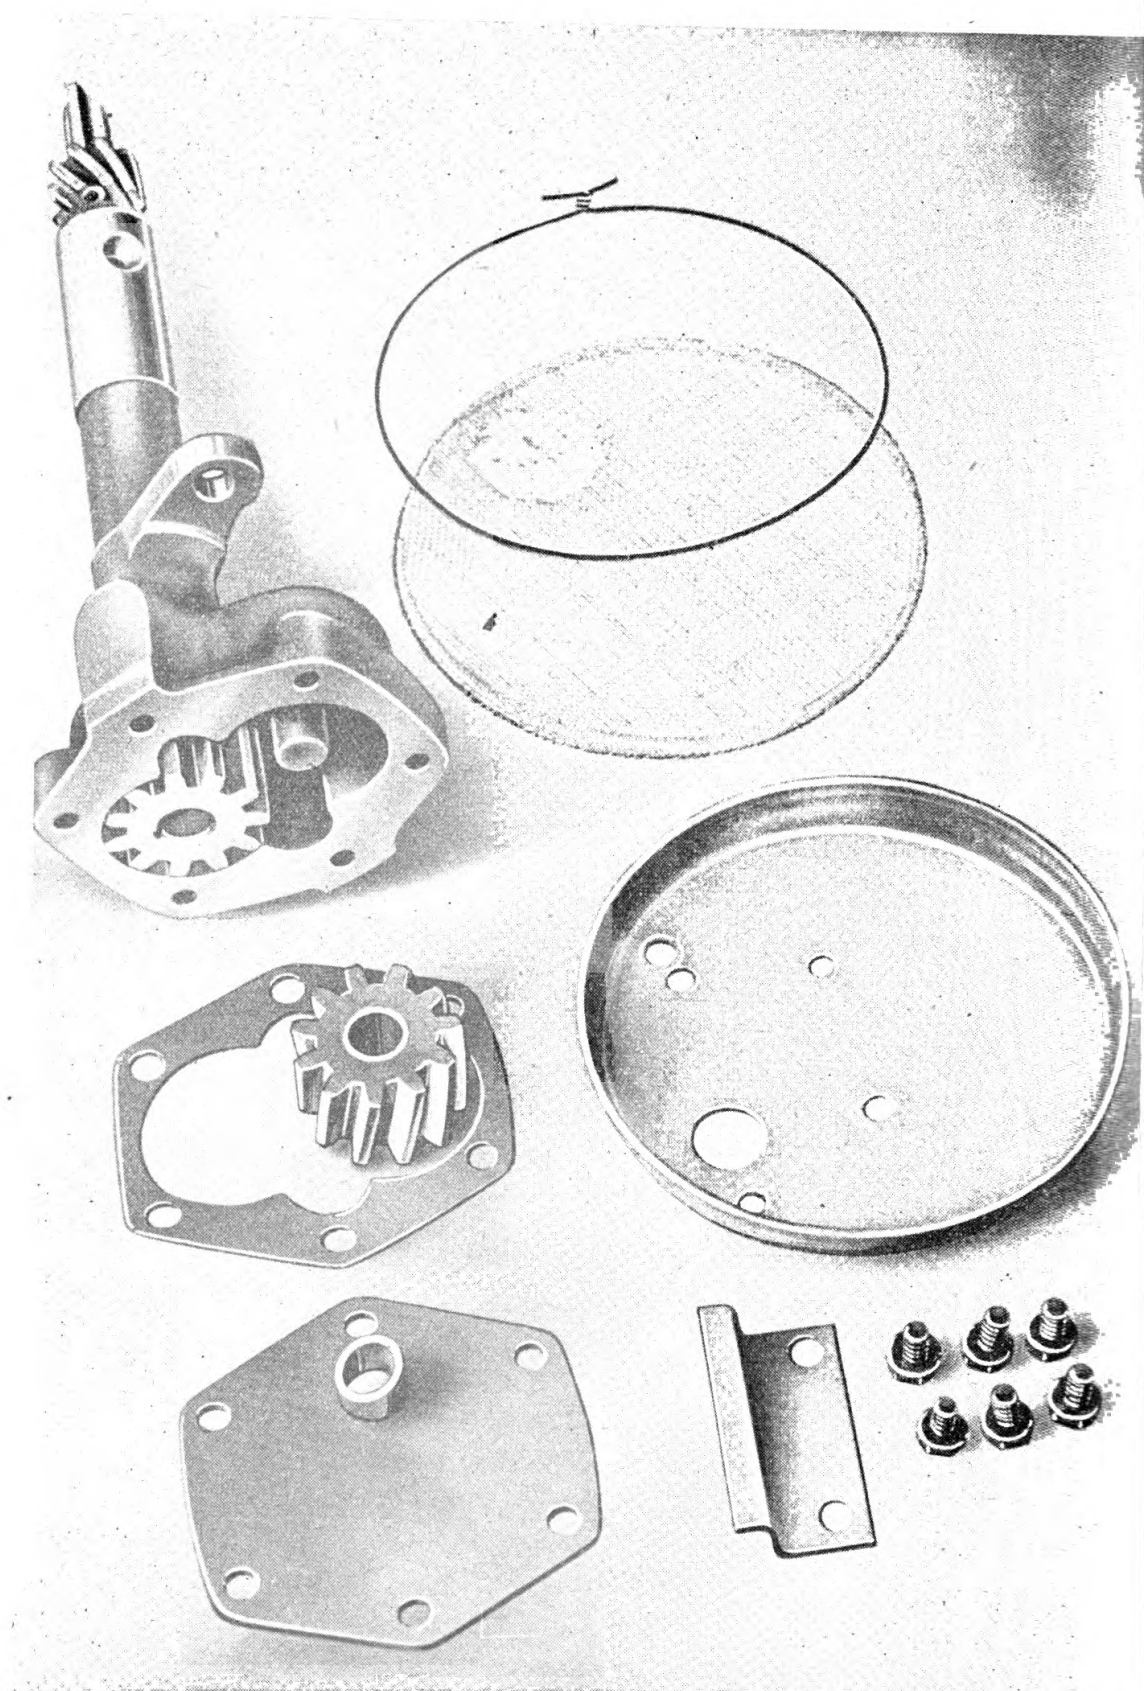

Figure 12. Oil pump disassembled.
a. To Overhaul Oil Pump (fig. 12). (1) Remove oil pan from engine.
(2) Remove strainer from pump.
(3) Remove bottom plate held in place by five cap screws.
(4) Remove gears from shaft.